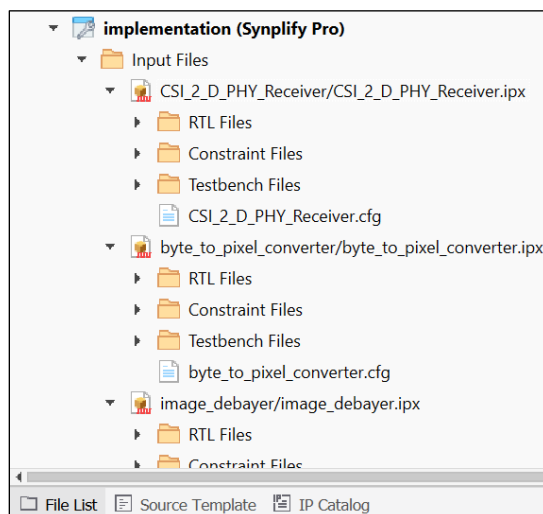

Figure 4.4. Open CSI_2_DPHY_Receiver.ipx File
5. Double click on the *CSI_2_DPHY_Receiver.ipx* file present in the *File List* section of the Radiant software to configure the DPHY_RX IP as shown in Figure 4.4.